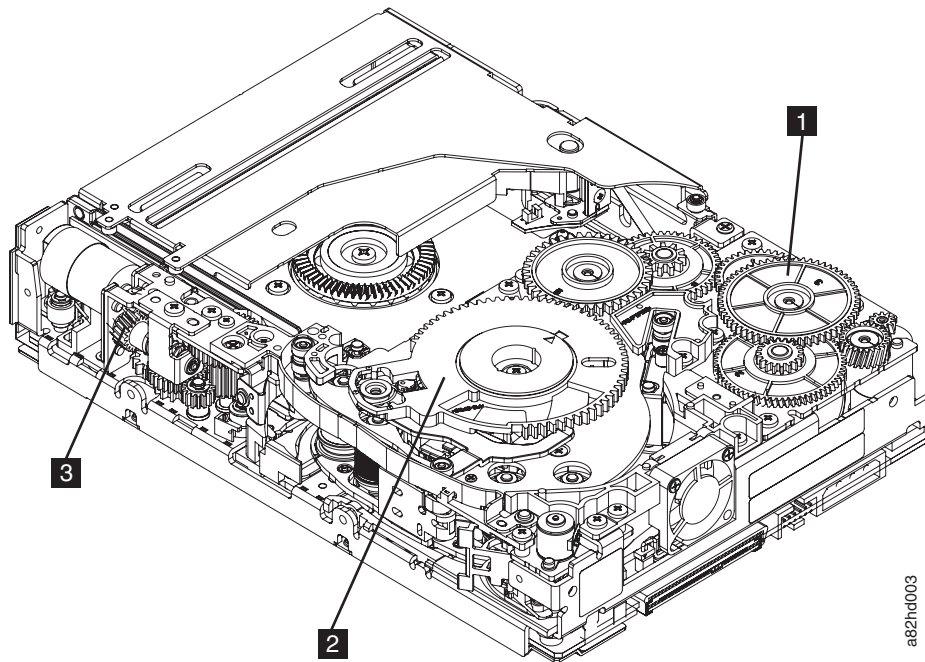
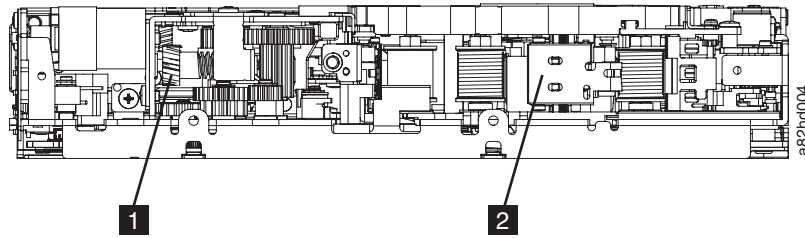

Figure A-17. Drive with cover removed to reveal gear train
Figure A-18. Leader Block Assembly (LBA)
4. Locate the threader intermediate gear **1** in Figure A-17 near the rear of the drive. You can use your finger to rotate the threader intermediate gear **1** in Figure A-17 and slowly rotate the threader mechanism gear **2** in Figure A-17 clockwise. This draws the tape leader block assembly (LBA) into the cartridge.
5. As the leader pin is secured in the cartridge, you should hear the leader pin retention spring clips click into place. If you do not hear the click, continue rolling until the threader intermediate gear **1** in Figure A-17 stops. The LBA is in the correct position.
6. Rotate the loader motor worm gear **3** in Figure A-17 and **1** in Figure A-18 clockwise as viewed from the front of the drive until it stops. This releases the LBA leader pin.
7. Rotate the threader intermediate gear **1** in Figure A-17 counterclockwise until the leader block is in front of the Read/Write head. This moves the LBA out of the cartridge.
8. Rotate the loader motor worm gear (**3** in Figure A-17) counterclockwise as viewed from the front of the drive until it stops.